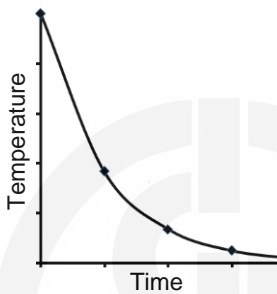

Fig. 5.11: Newton's law of cooling.
4. Non-quasi-static because the temperature of a cooling body follows the Newton's cooling law, which is exponential in nature. It falls sharply in the initial stages of cooling, and then slows down as shown in Fig. 5.11. Hence the rate of change of temperature is much higher in the initial stages of cooling and cannot be approximated to an equilibrium state.